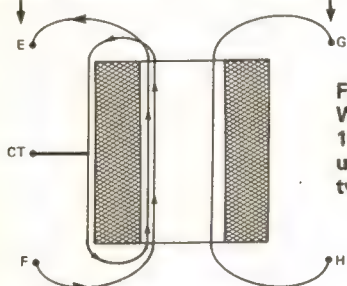

Figure 3: T2 winding details. Wire used — solid core PVC 1x0.6mm PVC insulated; core used — Fair-Rite ferrite sleeve type 26-43006301.
Winding details for T2 are given in **Fig.3**.
The next stage is to build T2 as in Fig.3 and to solder it in place, except for the centre tap (CT) which should be bent to point upwards. Apply power again and check that the current consumption has not risen since the previous measurement. Now connect a multimeter between the supply (positive lead) and T2's centre tap (negative lead). Put the multimeter on a 50mA current range, and adjust VR1 until the meter reads 20mA. This represents twice the quiescent collector current of Q2